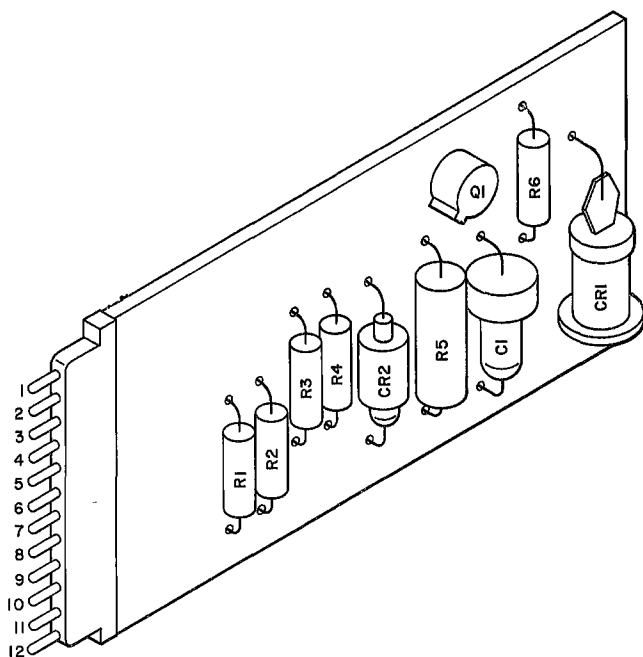

Fig. 9—Plug-In Circuit Pack Assembly (Loop-Back)
2.15 The plug-in loop-back circuit pack (Fig. 9) can be provided when the loop-back feature is required. It has been arranged as a plug-in unit to facilitate maintenance and to permit optional use. The pack provides part of the terminating unit detection circuit for the loop-back maintenance feature and a fixed pad arrangement used when measuring loop transmission losses.